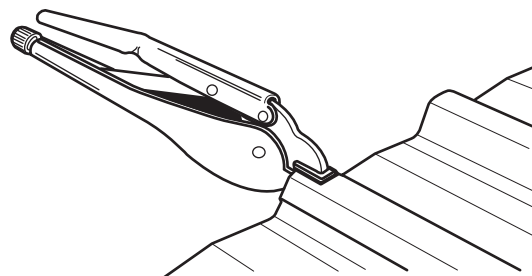

Figure 8.2.2
- clamp the lap with a pair of vice grips (Figure 8.2.2);